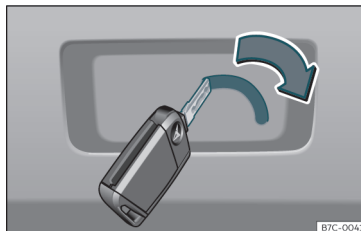

Fig. 8 Luggage compartment: manual release.
- To unlock the rear lid, push the lever in the direction of the arrow using the key blade » » **Fig. 8**.